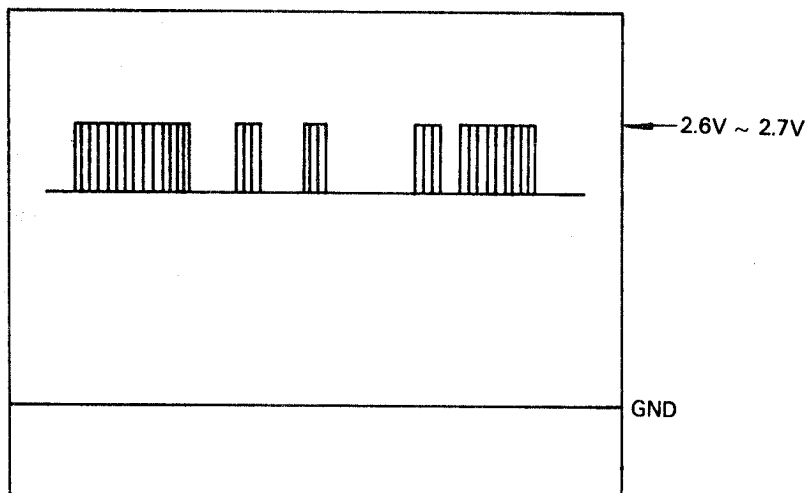

Fig. 3-1
3. Read and write the floppy disk drive, and adjust it to obtain 2.6 ~ 2.7V as shown in fig. 3-1.